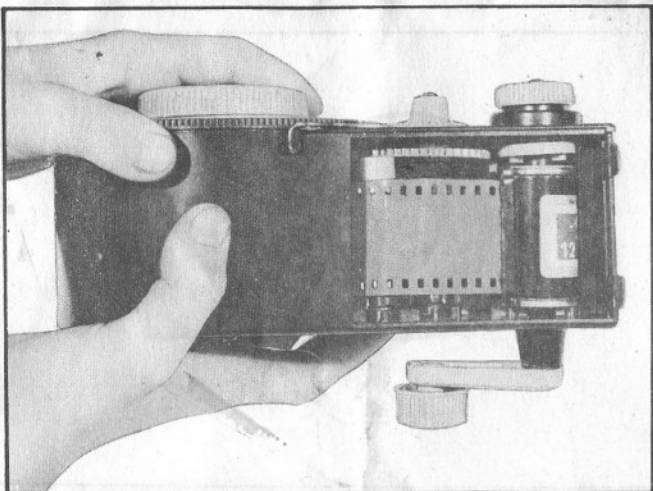

FIG. 3
1. Rotate safety interlock (3) clockwise to its stop and snap out access door.
5. Pull the spring-loaded holder bearing (5) and drop the cassette into the cassette chamber at the right end of the case. Release the holder bearing and let the cassette holder engage the cassette.
6. Position film so its perforations fit on sprocket idler (11), see (fig. 3).
7. Replace the access door; rotate the safety interlock lever (3) counter clockwise until it locks the access door; now rotate the cylinder (2) counter clockwise as far as it will go, (arrow will indicate "TO LOAD FILM").
8. Rotate the frame counter (4) counter clockwise to 37 or 38. Engage the winding crankshaft (12) by pushing it into the cassette's winding key and turn the crank (clockwise) until the film counter indicates 0. This setting counts out the unusable leader film.